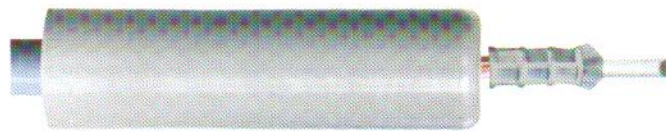

Figure 5
2.5. Crimping the Lug (Figure 5)